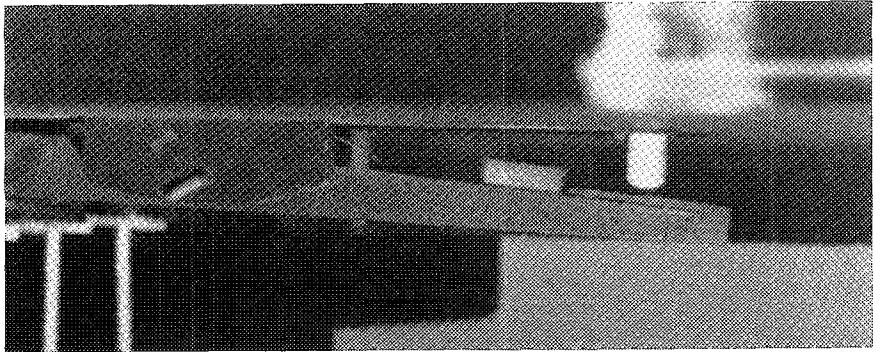

Figure 6
The tops of the pedal rods contact the levers; the levers rest directly on the rod with a leather pad in between. Replace these leathers rather than sandwich a new piece over a worn one. Lubrication is usually not required here. The levers rotate on pins which are held by blocks fastened to the bottom of the keybed (**fig. 6**). These blocks must be tight; the pins must be straight and clean (replace them if bent) and should be twice-lubed. There are punchings to space the levers in the blocks which should also be replaced and lubricated. Often there is a set screw in the lever which locks onto the pin — the pin should rotate only in the supporting blocks. There may also be a spring, either leaf or coil, between the lever and the keybed, with leather at the contact points. Replace these leathers if worn and lubricate them well (VJ), be sure screws fastening springs are tight. On most pianos there are stops to hold the levers in place if the lyre is removed: L shaped pins, long screws, or another block of wood. Replace these if broken — they are critical when the piano is moved. (Problems in this area can often be reached for quick servicing by removing the rod and the stop to let the lever fall down enough to give access to the spring and pitman.)
The shift pedal rod directly contacts the shift lever which contacts the keyframe. The right and middle rods contact the levers which in turn contact pitmans which go through the keybed to the mechanism they operate. Pitmans are notorious noise makers. The damper pedal pitman is usually a wood, metal or Teflon dowel which sits on a leather pad on the lever, (**fig. 6**) goes through a bushed hole in the keybed, and contacts another leather on the damper tray. The hole must be correctly bushed but is not lubricated — any lubrication here must be dry and goes on the pitman (although I have heard of bushing the hole with sheet Teflon). If it is a wooden dowel, I coat it with DAG 150 (liquid graphite) and let it dry complete-
The slight lost motion in the right pedal is between the damper tray and the underlevers. Everything else, from rod to lever to pitman to tray, should be in direct contact. Adjustments are made in the rod length or the thickness of the leather. When the dampers are regulated to the keys, to the keys, the pedal is regulated to lift them the same distance; the stop-block is placed either on the lever (**fig. 6**) to block against the keybed (or a bolt) or in the box above the pedal to prevent further lift.